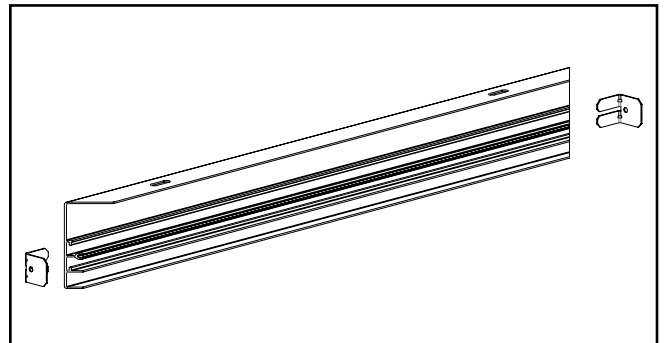

**Figure 9.**
2. Reinstall the removed frame piece with the retained screws to complete the installation. (Figure 9.)